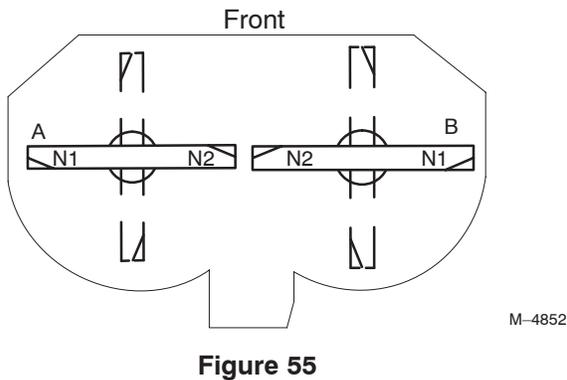

Figure 55
- Position the blade in the A orientation as shown in Figure 55.
- Rotate the blade 180 degrees so the opposite blade end (N2) is in position A (Fig. 55).